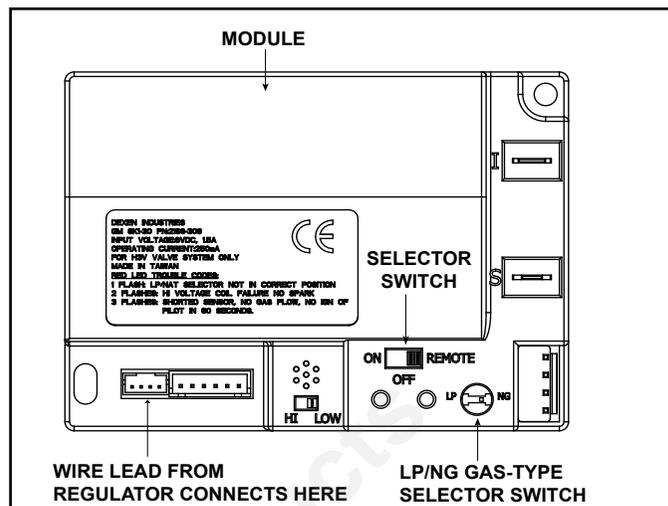

Figure 12.4 Control Module
1. The control module has an ON/OFF/REMOTE selector switch that must be set. See Figure 12.4.
- Verify the ON/OFF/REMOTE switch is in the REMOTE position. Green LED light will blink three times and the control module will beep once 5 seconds later when ready. See Figure 12.4.